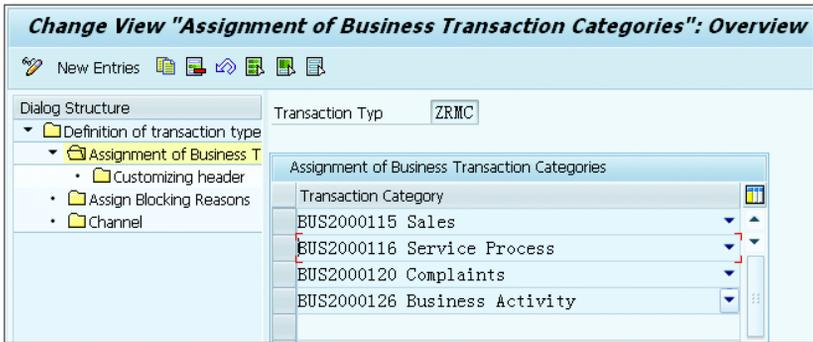

Figure 7.85 Assignment of Business Transaction Categories
- Only limited business transaction categories are assigned to the complaints transaction type; in this case, it's BUS2000115 SALES, BUS2000116 SERVICE PROCESS, BUS2000120 COMPLAINTS, and BUS2000126 BUSINESS ACTIVITY (see Figure 7.85).